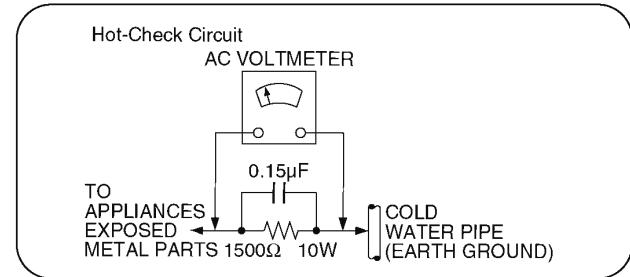

Figure 1
1.1.2. Leakage Current Hot Check (See Figure 1.)
2. Connect a 1.5kohm, 10 watts resistor, in parallel with a $0.15\mu\text{F}$ capacitors, between each exposed metallic part on the set and a good earth ground such as a water pipe, as shown in Figure 1.